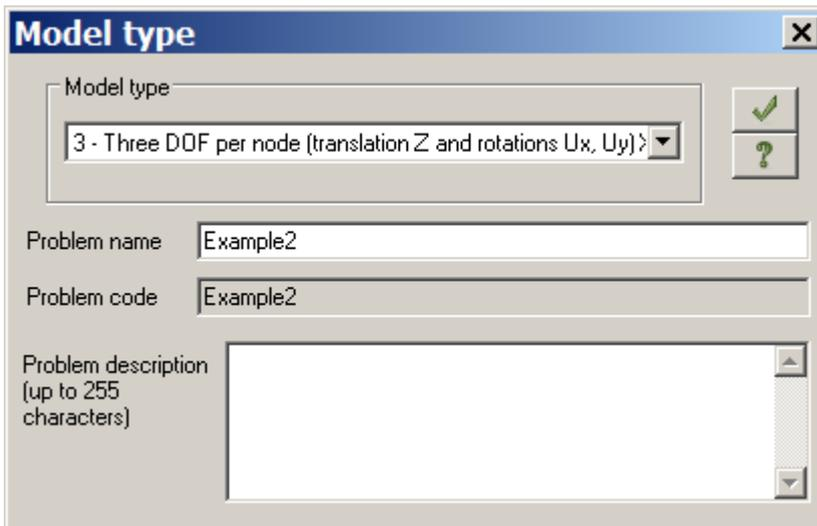

Figure 2.2 **Model type** dialog box
- ⇒ In the **Model type** dialog box (see Fig.2.2) specify the following data: